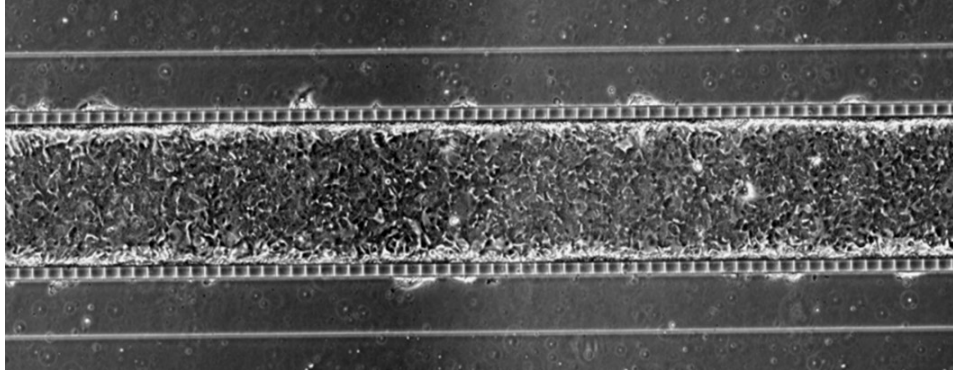

Figure 2. HBE monolayer after incubation with differentiation media on a liquid-liquid interface for 24 hrs.
2. Connect the one tubing from the manifold splitter to the center channel of the microfluidic device (**Figure 2**). This will flow moisturized air over the HBE cells in the center channel.
Figure 2. Illustration of the manifold splitter and its connection to the bubble humidifier, as well as an image of the manifold splitter connected to the center channel of a microfluidic device through tubing.